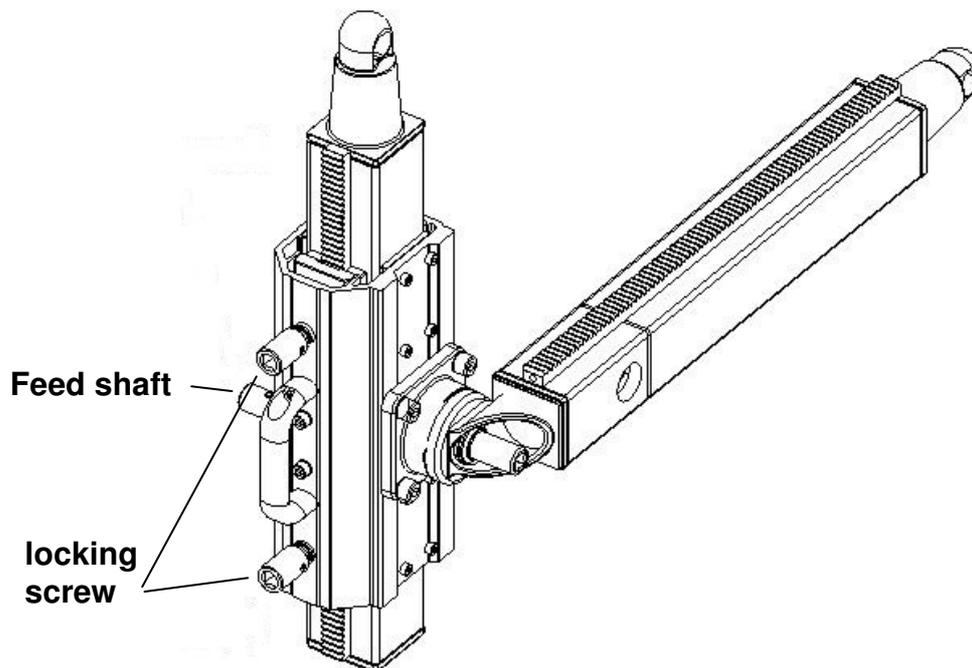

Fig. 5. Pivoting head-PD1 with assembled column.
1. Mount the pivoting head on the column (see fig. 5)
4. Lock the pivoting head with the locking screws on the desired height. (see fig. 5)